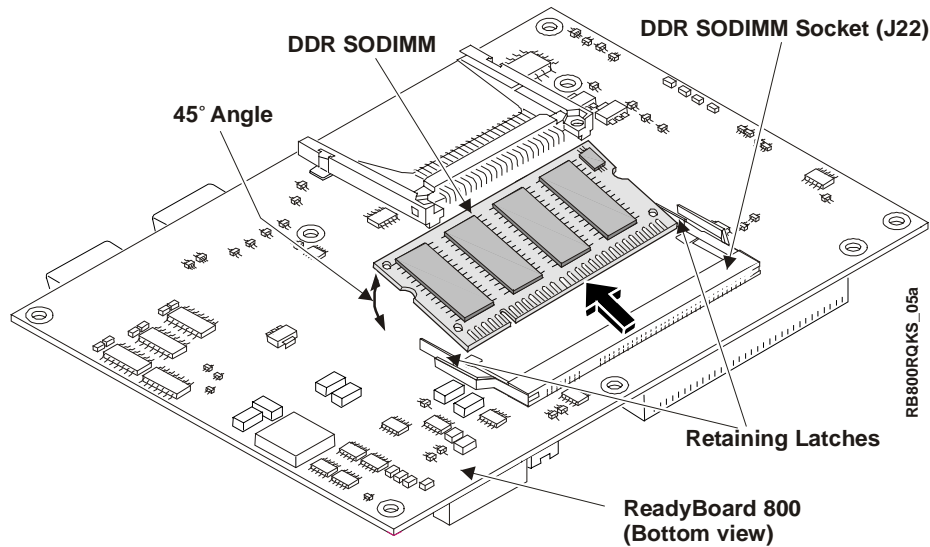

Figure 2-2. Removing SODIMM from Socket
- Open both retaining latches to release the SODIMM from the socket. See Figure 2-2.
- Using the card edges, lift the SODIMM completely away from the socket. See Figure 2-2.